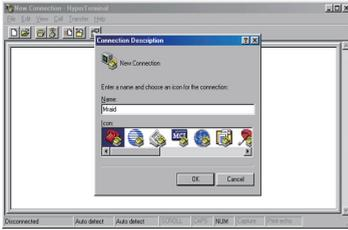

Figure 3.2-3
**Step 3.** Enter a name you prefer and then click "OK". (Figure 3.2-3)